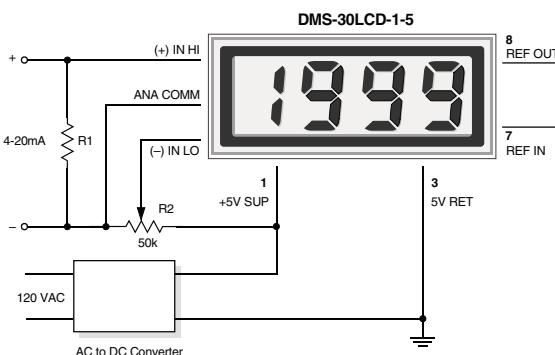

Figure 7. 4-to-20mA Current Loop Operation
- 5. Process Control (4-to-20mA) Measurements:** In many common process-control applications, a 4-to-20mA current loop is used to transmit information. Because DMS-30LCD meters have such high input impedance, a simple shunt resistor across the meter's input can be used to convert the loop current to a voltage. See Figure 7. The value of the shunt resistor is a function of the scaling requirements of the particular application and can be calculated using the following equation:
To calibrate the circuit of Figure 7, perform the following: